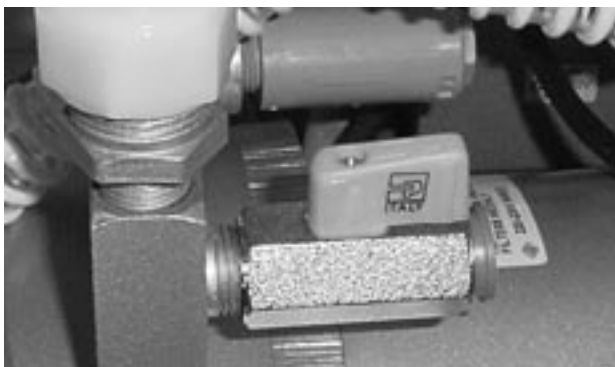
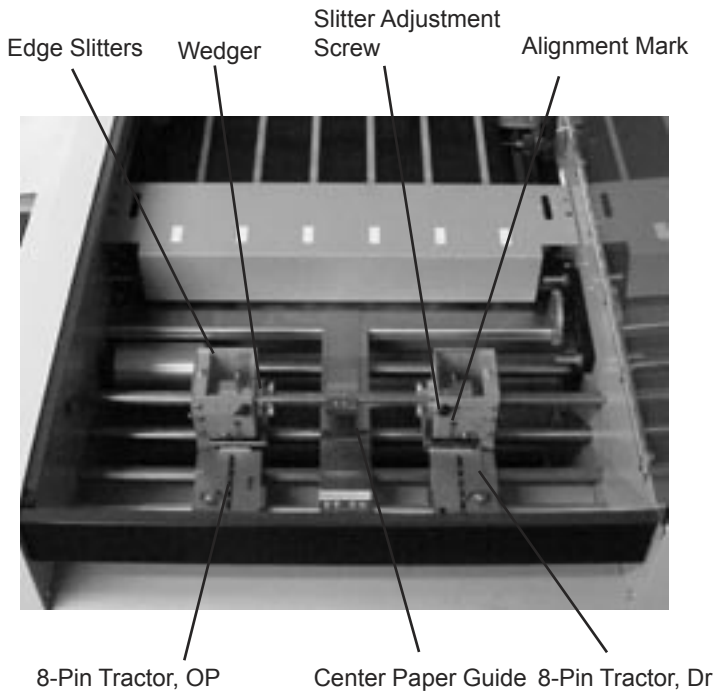

Fig 26
Fig 27
There is a bleeder valve on the vacuum pump, (Fig 26), which allows for vacuum adjustment from completely off to completely on. General settings for the bleeder valve are half open for 20# stock, and closed for 80# and heavier stock. If your machine is feeding doubles, this can be opened slightly to “relieve” some of the vacuum and stop the double feeding.
8. If using edge slitters, position alignment mark where you wish to slit. (Fig. 27)
9. If slitting, be sure that slitter blades are engaged. This is accomplished by rotating wedger in a counterclockwise direction as far as they will go without force. (Fig. 27)
10. Lock edge slitters in place by tightening thumbscrews clockwise. (Fig. 27)
Coarse adjustments are made by loosening the lock screws on the plate stops, then moving the stop (Fig. 26). The plate stop lines up with the scale marks along its front edge (not where the paper contacts the stop). Fine adjustments are made with the micro adjust knobs on the ends of the fold plates (Fig 27).